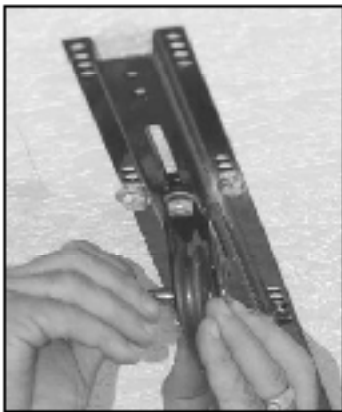

FIG. 7A
- Plug in the motor hoist (B) to the nearest 120 volt power outlet.
- Temporarily remove the pulley at the end of the spacer channel pulley bar (D) (use pliers to remove the cotter pin then remove the clevis pin to release the pulley) (SEE FIG. 7A & 7D)